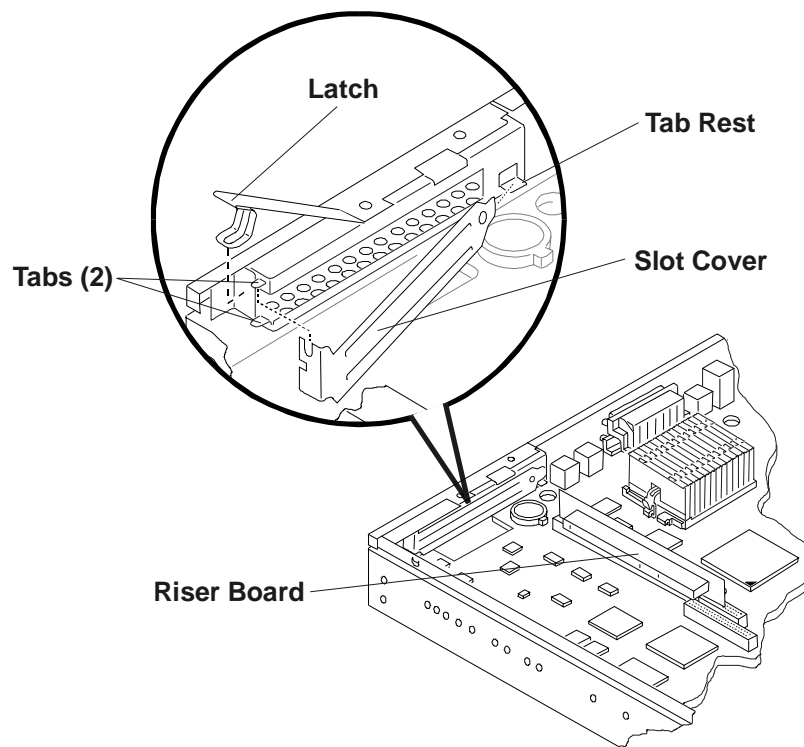

Figure 5-4. Removing the Accessory Slot Cover
9. Lift up the latch and move the slot cover to the left away from the tabs and out of the chassis as shown in Figure 5-4.
13. Secure the PCI board into the slot opening between the two tabs and close the latch. See Figures 5-4 and 5-5.
- b. Install the PCI board into the Netserver, securing the PCI board into the slot opening between the two tabs. See Figures 5-4 and 5-5.